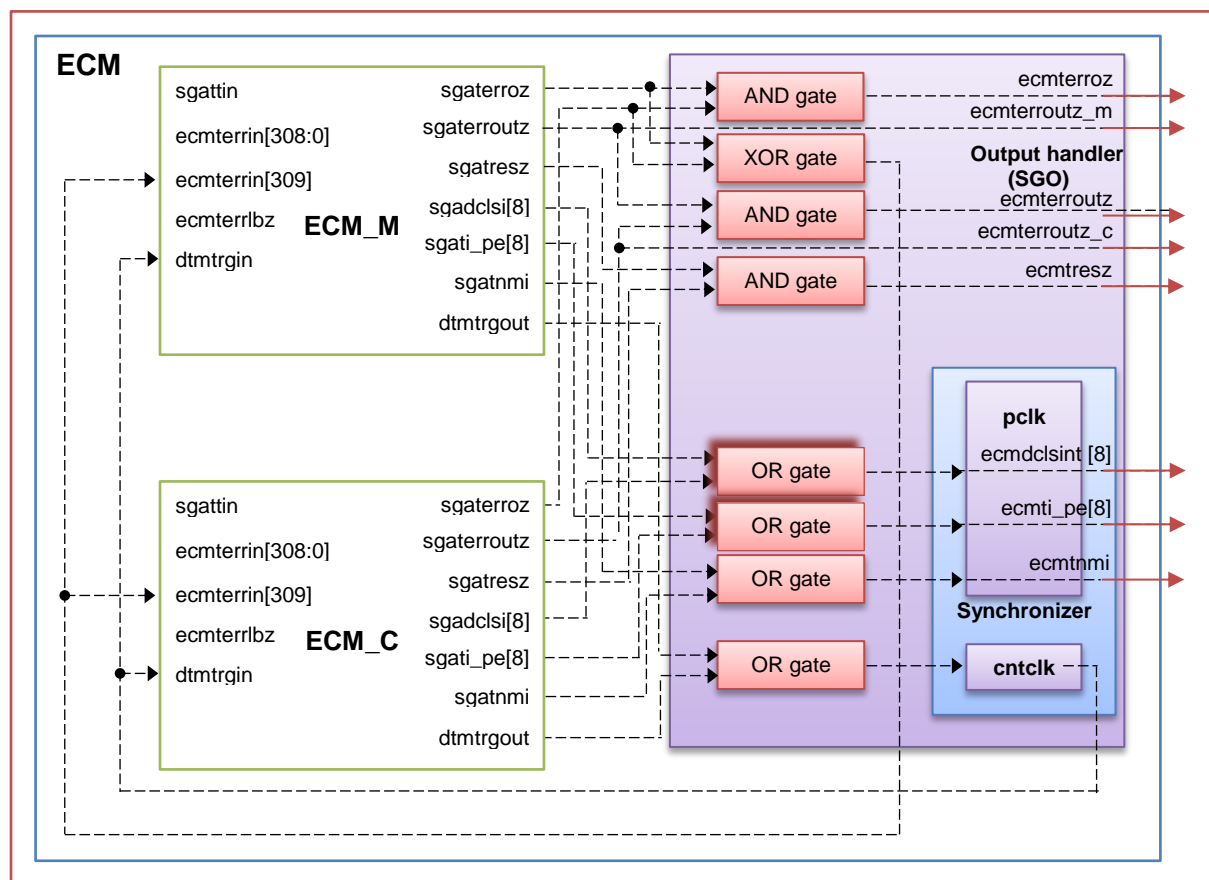
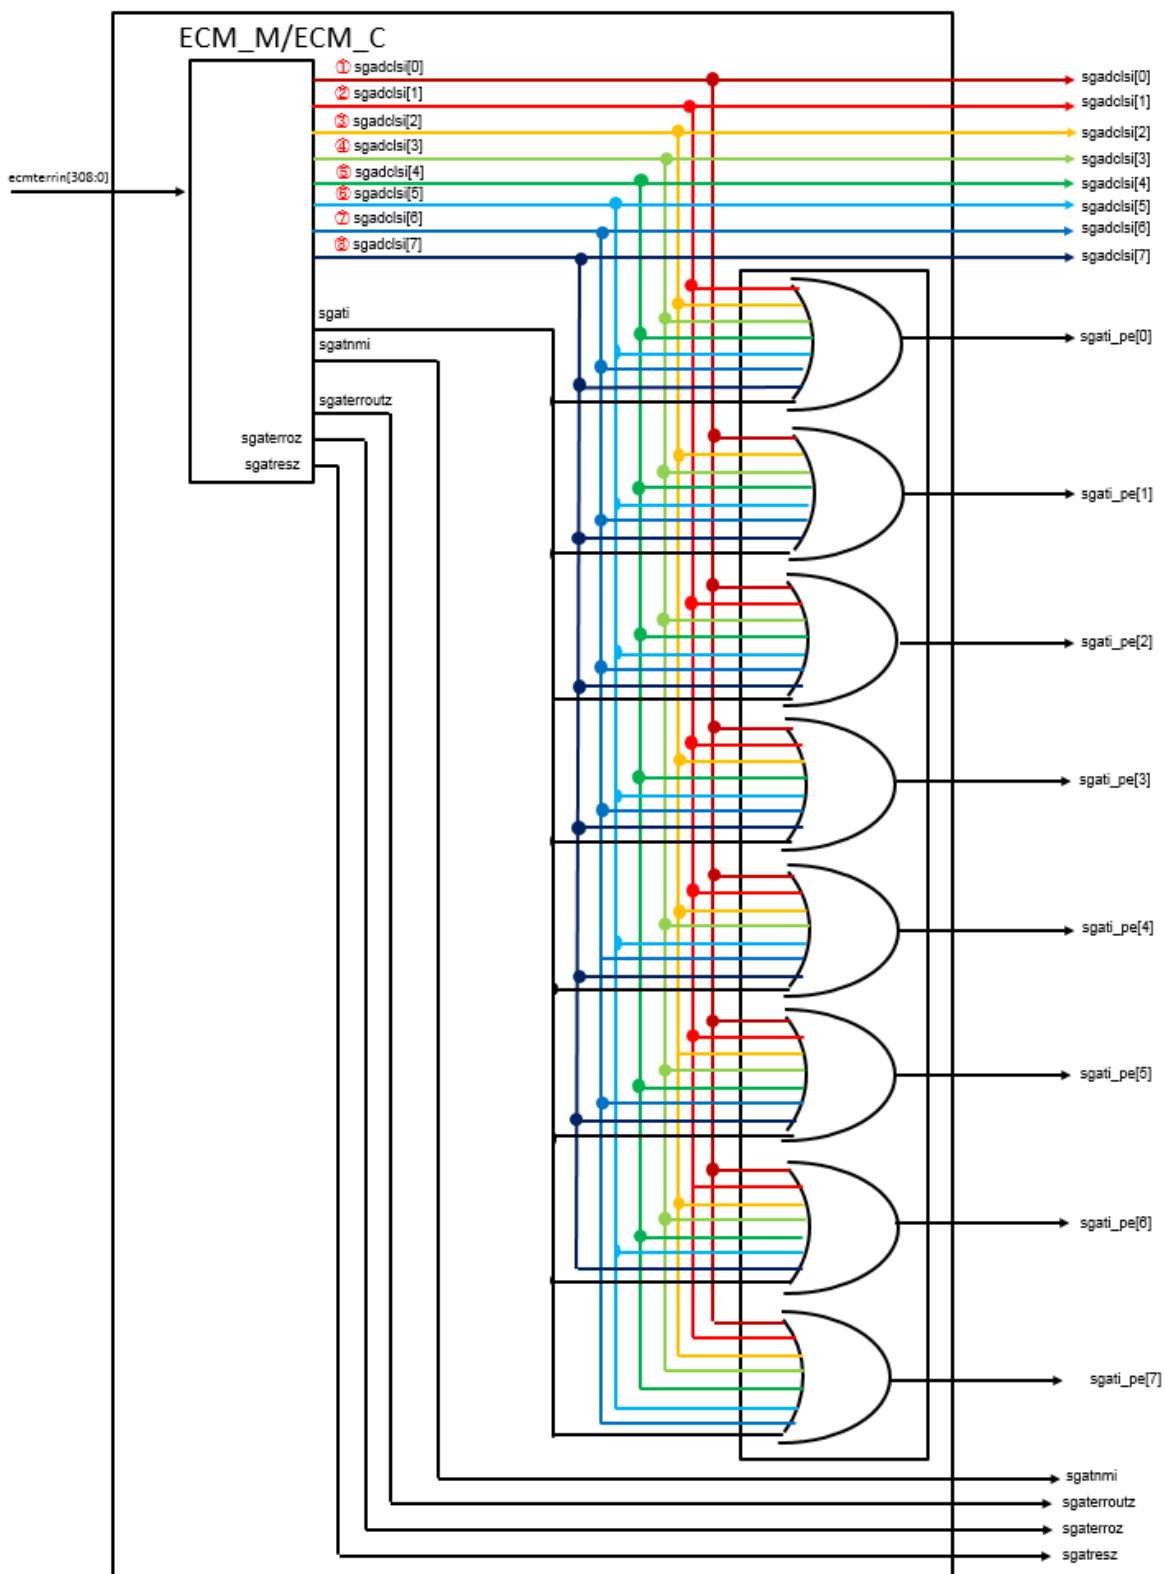

Figure 3.3: Disposing output signals (1/2)
Figure 3.4: Disposing output signals (2/2)
- After signals are received in the “Input handler” block, “ECM_M” and “ECM_C” blocks will process operation and notify operation result to “Output handler” block. The “Output handler” block will dispose the results (e.g: compare the results) and output signals to other models. (refer Figure 3.3 and Figure 3.4)